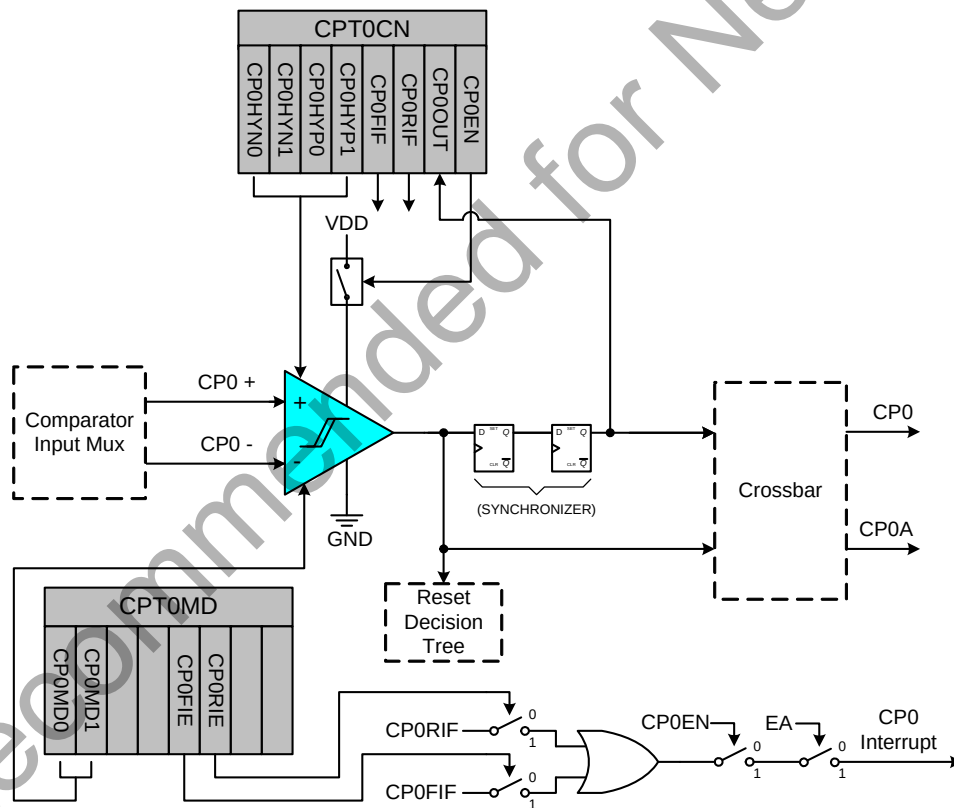

Figure 14.1. Comparator0 Functional Block Diagram
C8051T620/1/6/7 & C8051T320/1/2/3 devices include two on-chip programmable voltage comparators: Comparator0 is shown in Figure 14.1, Comparator1 is shown in Figure 14.2. The two comparators operate identically with the following exceptions: (1) Their input selections differ as described in Section “14.1. Comparator Multiplexers” on page 84; (2) Comparator0 can be used as a reset source.